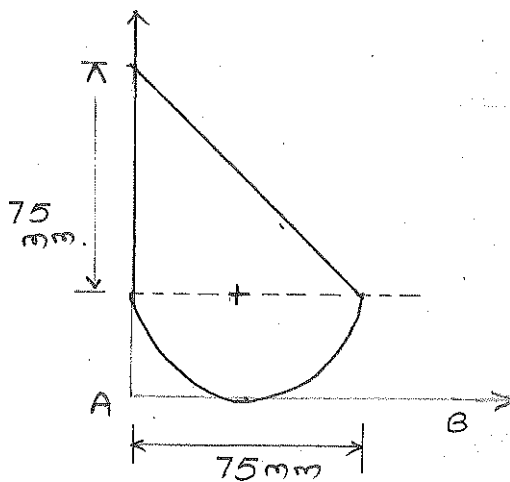

Fig. 4
- c) A lamina consist of a semicircle and a triangle shown in Fig. 4. Calculate its M.I. about reference axis AB.